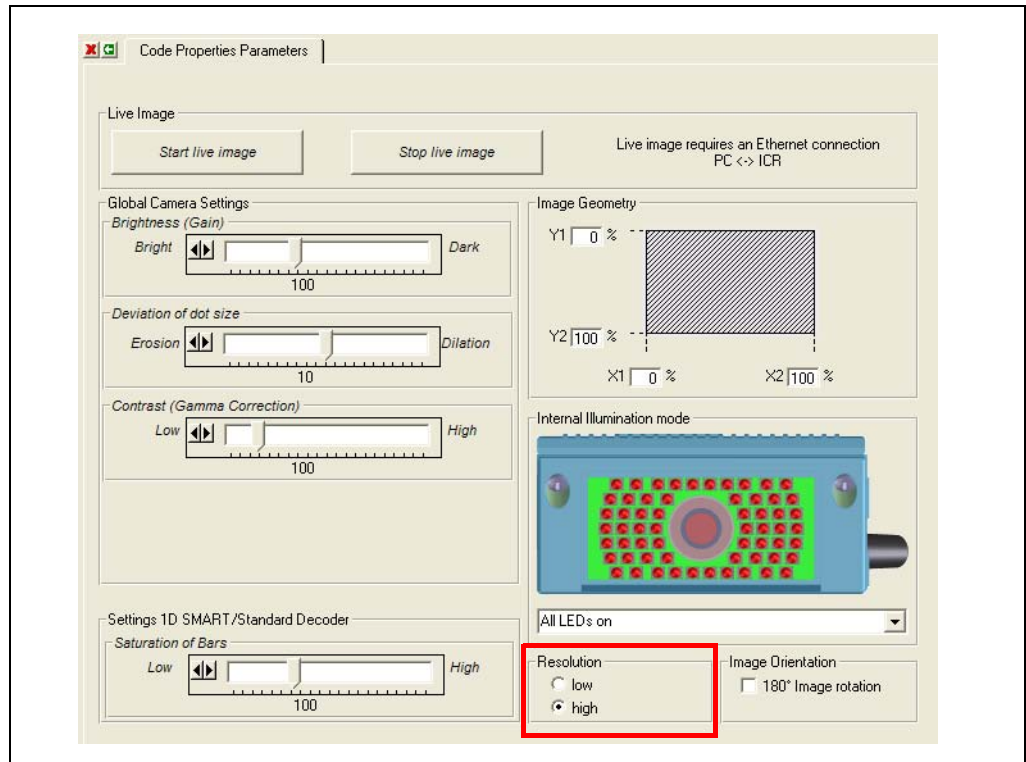

Fig. 10-13: CLV-Setup: "Code Properties Parameters" tab
3. In the RESOLUTION section, switch from HIGH to LOW (if necessary) (*Fig. 10-13, Page 136*).